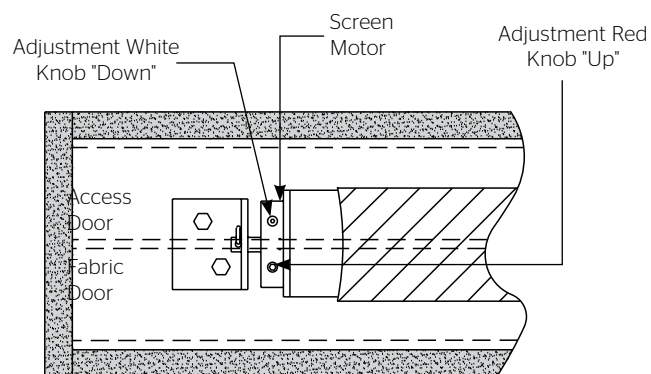

Figure 5
2. When the screen stops, turn the white "down" limit knob (Fig.5) one-quarter turn counterclockwise. Test by raising picture surface approximately two feet, then lower again. Repeat until desired picture surface position is attained.
3. Turn the white "down" limit knob (Fig.5) one-quarter turn clockwise. Test by raising picture surface approximately two feet, then lower again. Repeat until desired picture surface position is attained.